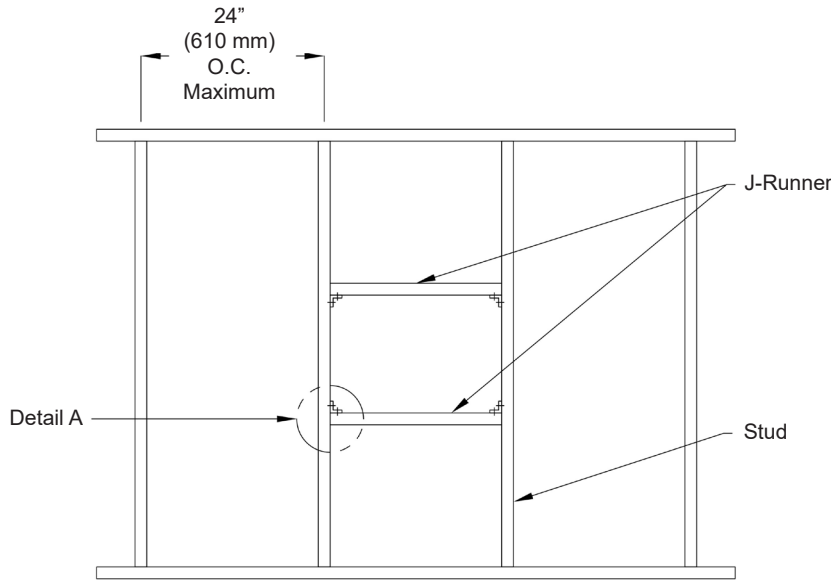

Figure 1: Opening Preparation Detail
- A. **II-FS**; standard installation for multi-blade airfoil and single thickness blade 1½ hour fire/smoke (F/S) and fire dampers (FD).
2. **Framing**: Gypsum panels must be screwed 12" (305 mm) on centers to all stud and runner flanges surrounding the opening (see **Figure 1** for framing details). Studs shall be spaced 24" (610 mm) max on centers. J-Runners are attached to studs with (minimum) 1½" x 1½" x 2" (38 mm x 38 mm x 51 mm) angles fastened with (minimum) ½" (16 mm) long #12 screws. As an alternative to the clip angle method, J-Track headers can be slotted to fit into the I-Studs and fastened through the J-Track into the I-Stud (shown in **Figure 2**).